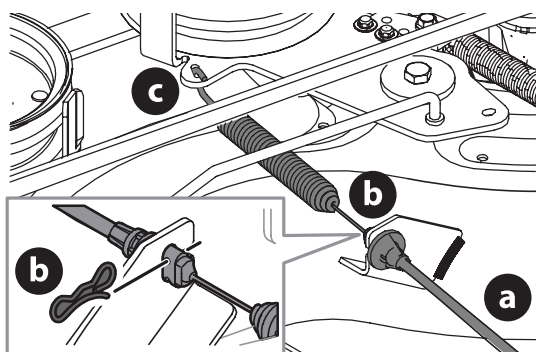

Figure 29
9. Carefully remove the PTO cable (a) from the rear of the cutting deck by removing the bow-tie clip (b) which secures it. Remove the spring (c) from the deck idler bracket (Figure 29).